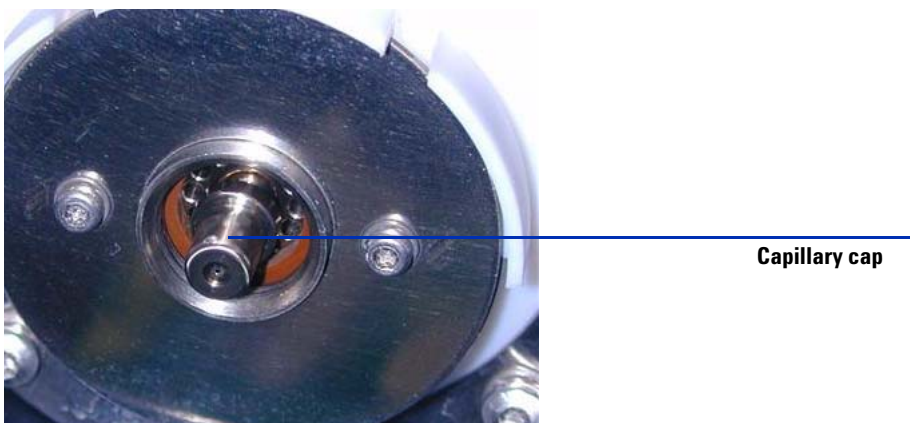

Figure 12 Spray shield removed.
- 8 Remove the capillary cap. If needed, moisten a clean cloth with isopropyl alcohol and wipe the capillary cap. See Figure 12.